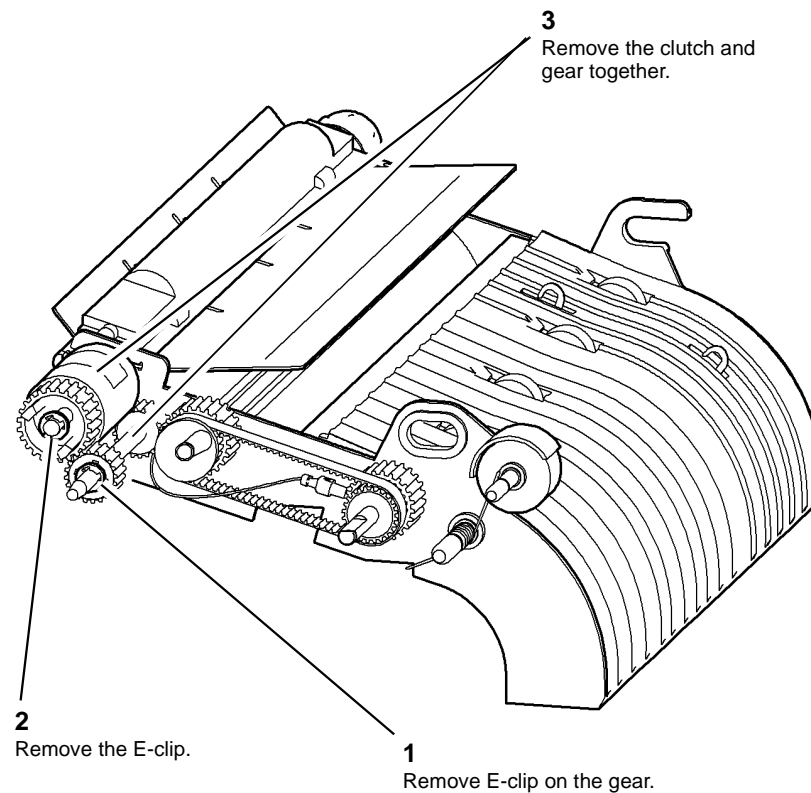

Figure 2 Registration clutch removal
4. Remove the registration clutch, **Figure 2**.